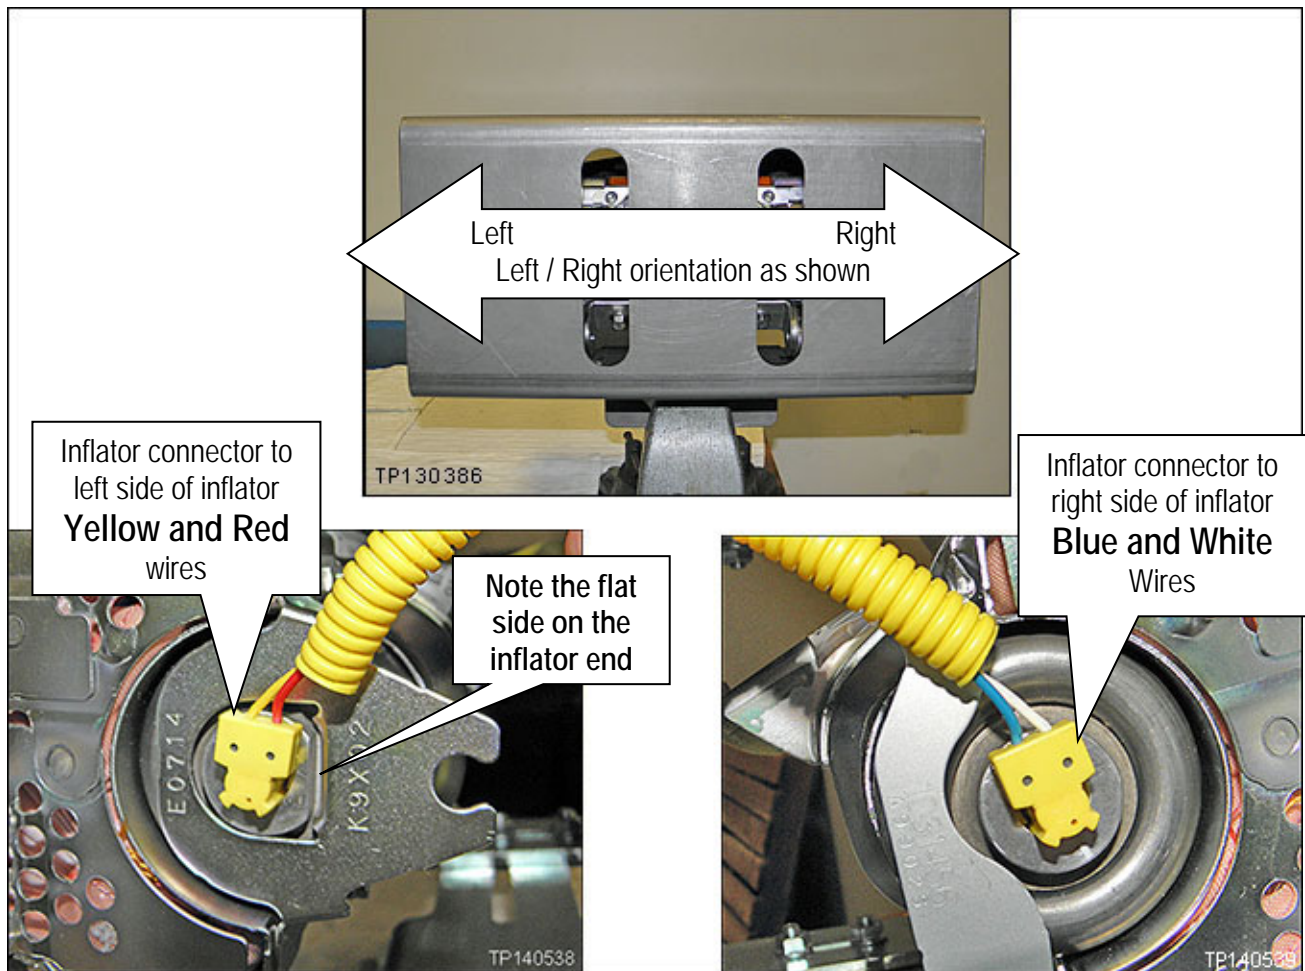

Figure Y17
- Make sure to attach the connectors to the correct ends of the inflator (see Figure Y17).
- Refer to Figures Y17, Y18, and Y19.